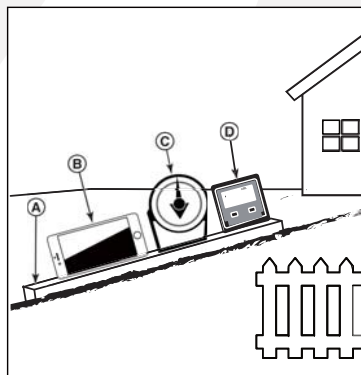

Fig. 1
1. Use a straight edge at least two (2) feet long (A, Fig. 1). A 2x4 or a straight piece of metal works well.
a. **Use your smart phone:** Many smart phones (B, Fig. 1) have an in-clinometer (angle finder) located under the compass application (app). Or, search an app store for an in-clinometer app.
b. **Use angle finder tools:** Angle finder tools (C and D, Fig. 1) are available at local hardware stores or online (also called in-clinometer, protractor, angle meter, or angle gauge). Dial type (C) or digital type (D) work, others may not. Read and obey the user instructions supplied with the angle finder tool.
3. Put the two (2) feet long straight edge along the steepest part of the lawn slope. Put the board up and down the slope.